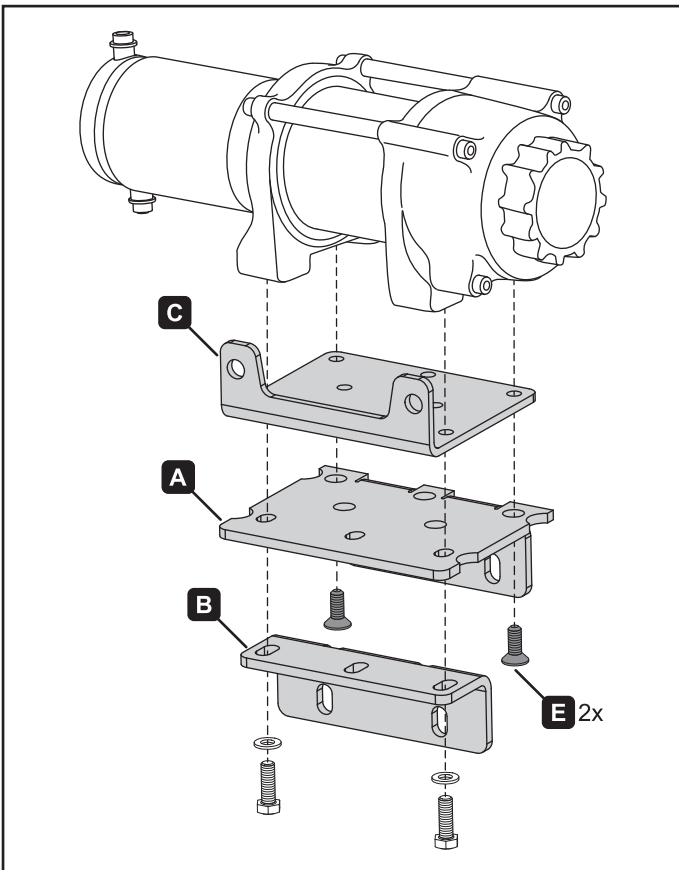

Figure 3. Standard winch configuration
3. Install your winch to the winch mount (A).
Standard winch: Use support bracket (B), fairlead bracket (C), bolts (E) and the hardware included with your winch. See figure 3.